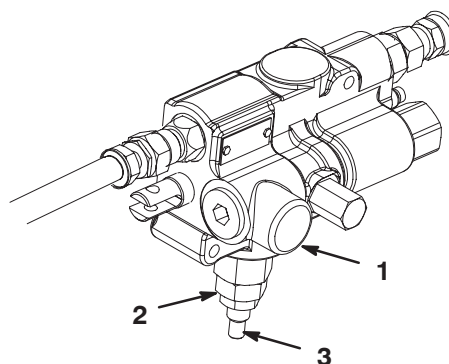

Figure 12
4. Loosen the jam nut at the bottom of the lift valve (Fig. 12). The lift valve is located on the right side of the machine.